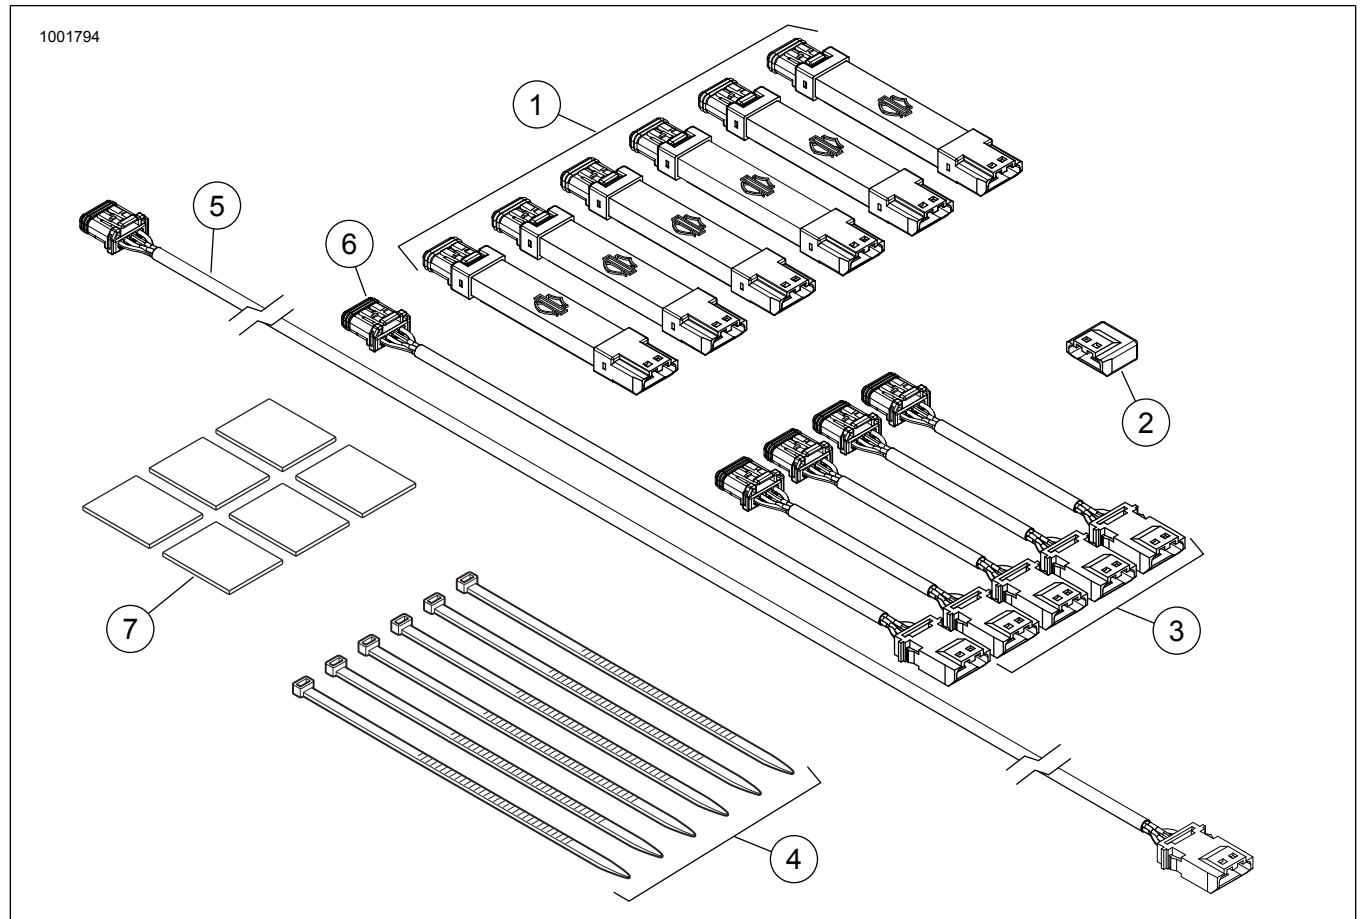

Figure 2. Service Parts, Spectra Glo Light Pod Kits
See Figure 2 and Refer to Table 1.
2. See Figure 2. Assemble (dry fit) light pods (1) and harnesses (3, 5 and 6) in desired configuration.